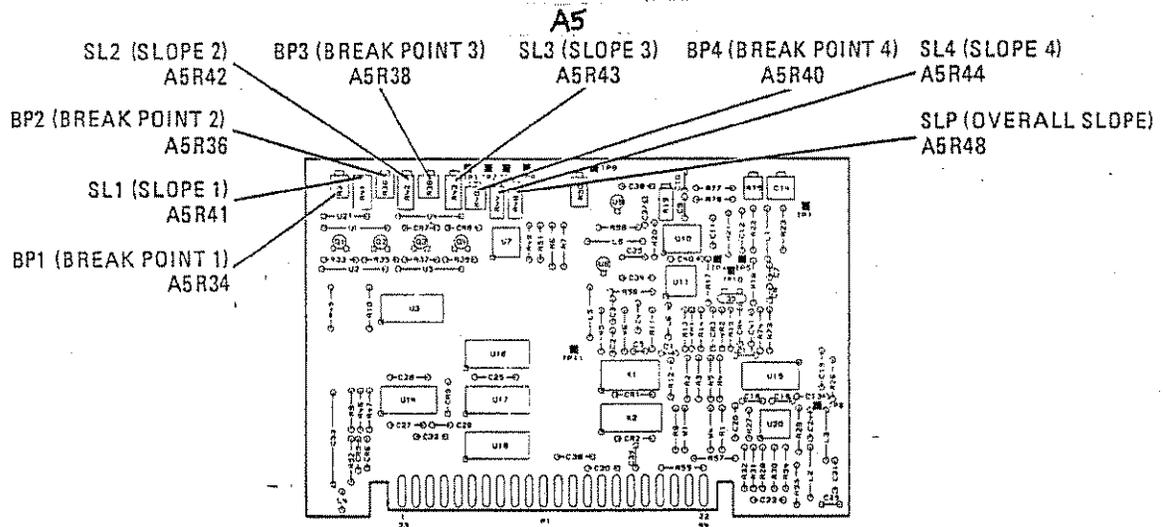

Figure 5-33. Internal Leveling Adjustments Location
2. Adjust all breakpoint potentiometers fully clockwise to effectively remove the circuit from the leveling loop (ASR34 (BP1), ASR36 (BP2), ASR38 (BP3), and ASR40 (BP4)). Refer to Figure 5-33 for adjustment locations.
13. Reconnect the equipment with the K486A Thermistor Mount and the Adapter connected to the Power Splitter as shown in Figure 5-33.